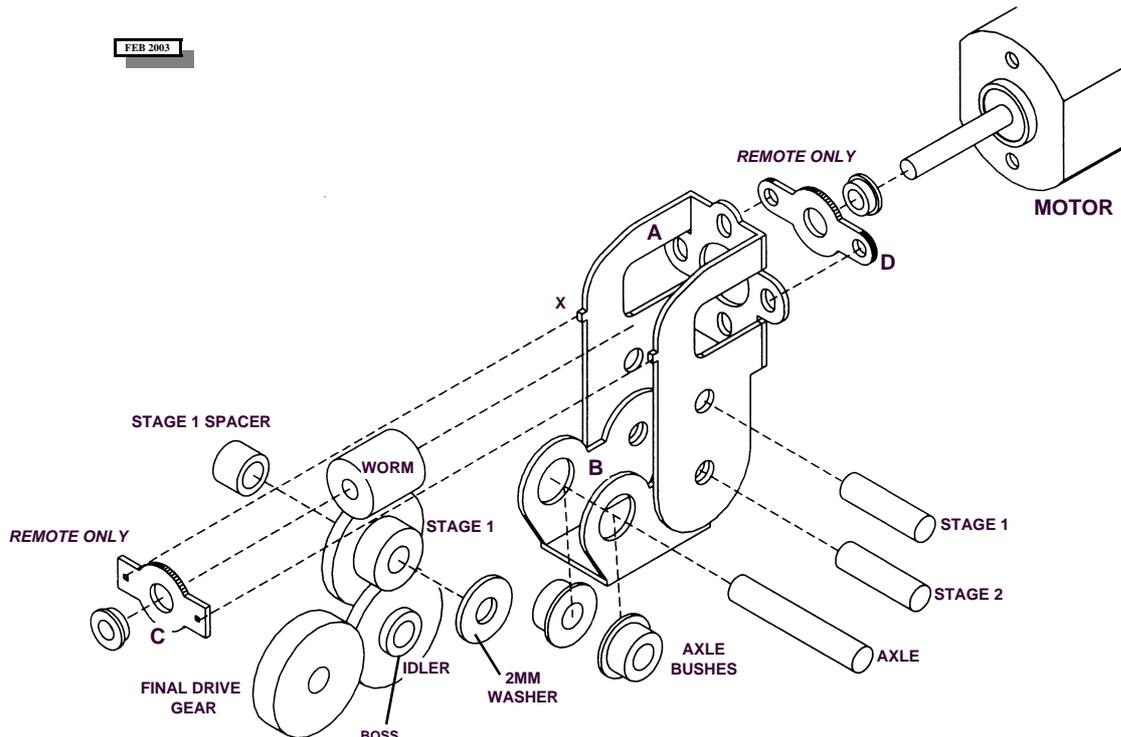

FIG. 1
Study Figs 1 and 2. Before cutting the gearbox etch from the fret, progressively ream out each of the **holes** to the sizes shown in Fig 2. Components should be offered up until they a tight push-fit in their holes. Once the gearbox is assembled, the shafts are fixed but the gears are free to revolve. Remove burrs by inserting the tip of a drill bit (of much larger diameter than the hole) and gently rotating it between your fingers.
Now cut the etches from the fret with a heavy blade and trim off the tabs, taking care not to accidentally remove any locators. **Fold up the gearbox** (A) as shown in Fig. 1, using flat nosed pliers to grip the motor mounting plate near the bend lines when doing so. This will prevent the plate from accidentally buckling across the hole centres. All bends are 90 degrees, with the bend lines on the inside of the gearbox. Add fillets of solder to the inside of the folds to strengthen the gearbox. If you are using the **remote attachments**, open out the small location holes in the front attachment (C) so they fit snugly over the locators (X) on the main gearbox etch, and then solder it in place. Now fold up the final drive carriage (B) and strengthen with solder, as above. De-flux the gearbox and carriage by scrubbing them with household cleaner, then rinse and allow to dry. If they are likely to be visible then **paint** them black.
Refer to Fig. 1. The stage 1 double gear will be one of three types - 15/10T (30:1), 20/10T (40:1) or 27/10 (54:1) - depending on the overall reduction ratio of the gearbox. The **final drive carriage** can be mounted facing backward or forward, depending on the configuration you require.
Refer to Fig. 1. The stage 1 double gear will be one of three types - 15/10T (30:1), 20/10T (40:1) or 27/10 (54:1) - depending on the overall reduction ratio of the gearbox. Fit the **stage 1 gearshaft**, double gear (according to ratio) the spacer bush and the etched thrust washer (with the ribbed side facing the gear) into the gearbox. Sight through the opening in the gearbox sides to check the mesh with the worm - there should be daylight between the gear and the worm, but avoid having too much backlash. Some modellers may prefer a deeper mesh (especially for a heavily loaded loco) but avoid 'bottoming out' the gears. If the mesh is too shallow, the gears may wear or even come out of mesh. If necessary, loosen the motor fixing screws, adjust the mesh and then lightly glue the shaft in place.